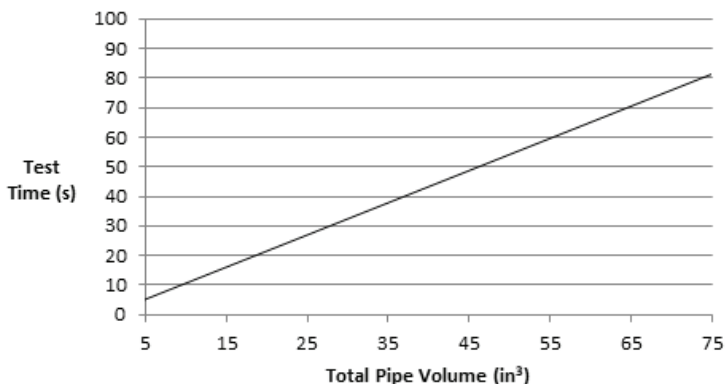

Figure 10-7: Valve Seat Leakage Test Time
2. Determine test time per Figure 10-7.